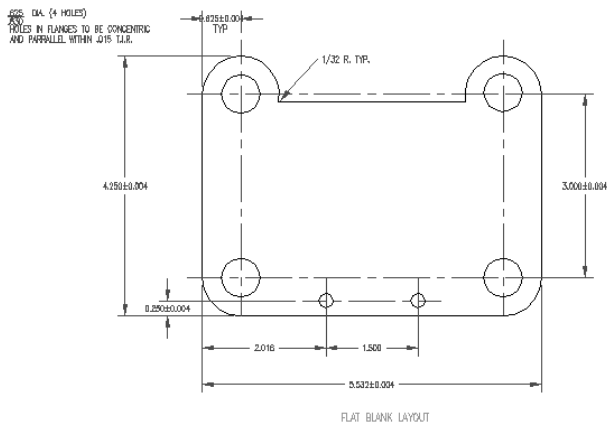

Figure 15-37: The dimensions have been added.
12. Save your drawing. It should look like Figure 15-37.